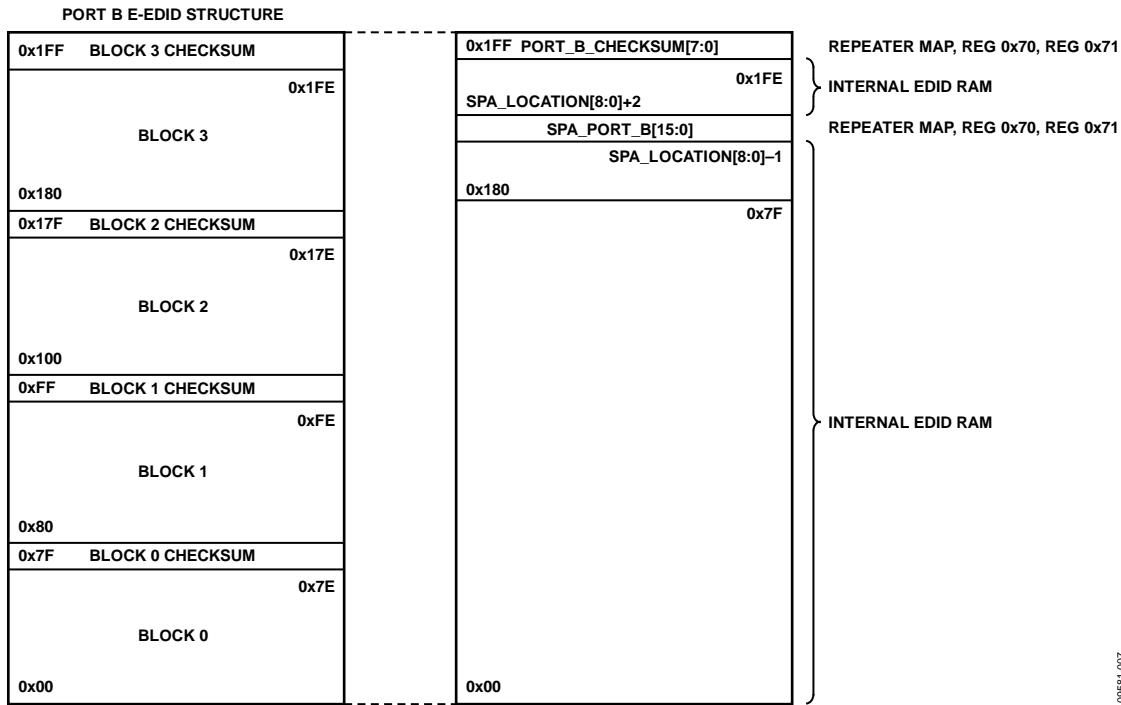

Figure 8. Port B E-EDID Structure and Mapping for SPA Located in E-EDID Block 3
- Figure 8—SPA located in E-EDID Block 3